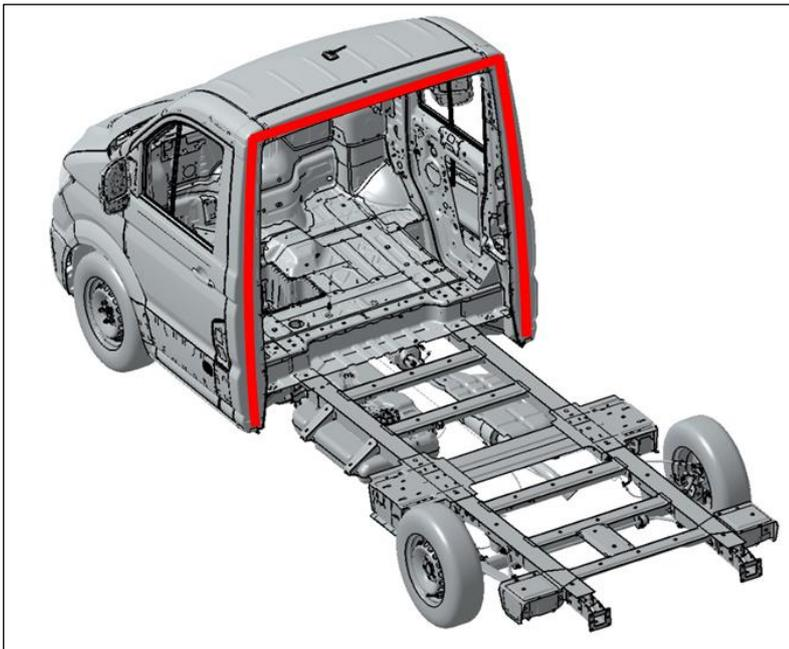

Fig. 6: Crafter flat frame chassis – bonding surfaces for connecting the rear wall of the box to the roof cross member and the B-pillar of the cab
- A suitable connection to the B-pillar (connection between back panel of the box and the cab) must be made using adhesive over the surface (see Fig. 6).